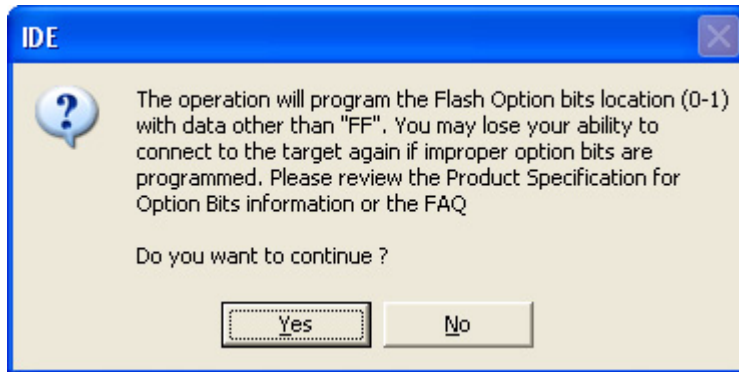

Figure 12. IDE Warning Dialog Box
- 11) Download the application code by selecting **Debug** → **Reset**. When the **IDE Warning** dialog box (see Figure 12) is displayed, click **Yes** to continue.
- 14) Download the application code by selecting **Debug** → **Reset**. When the **IDE Warning** dialog box (see Figure 12) is displayed, click **Yes** to continue.